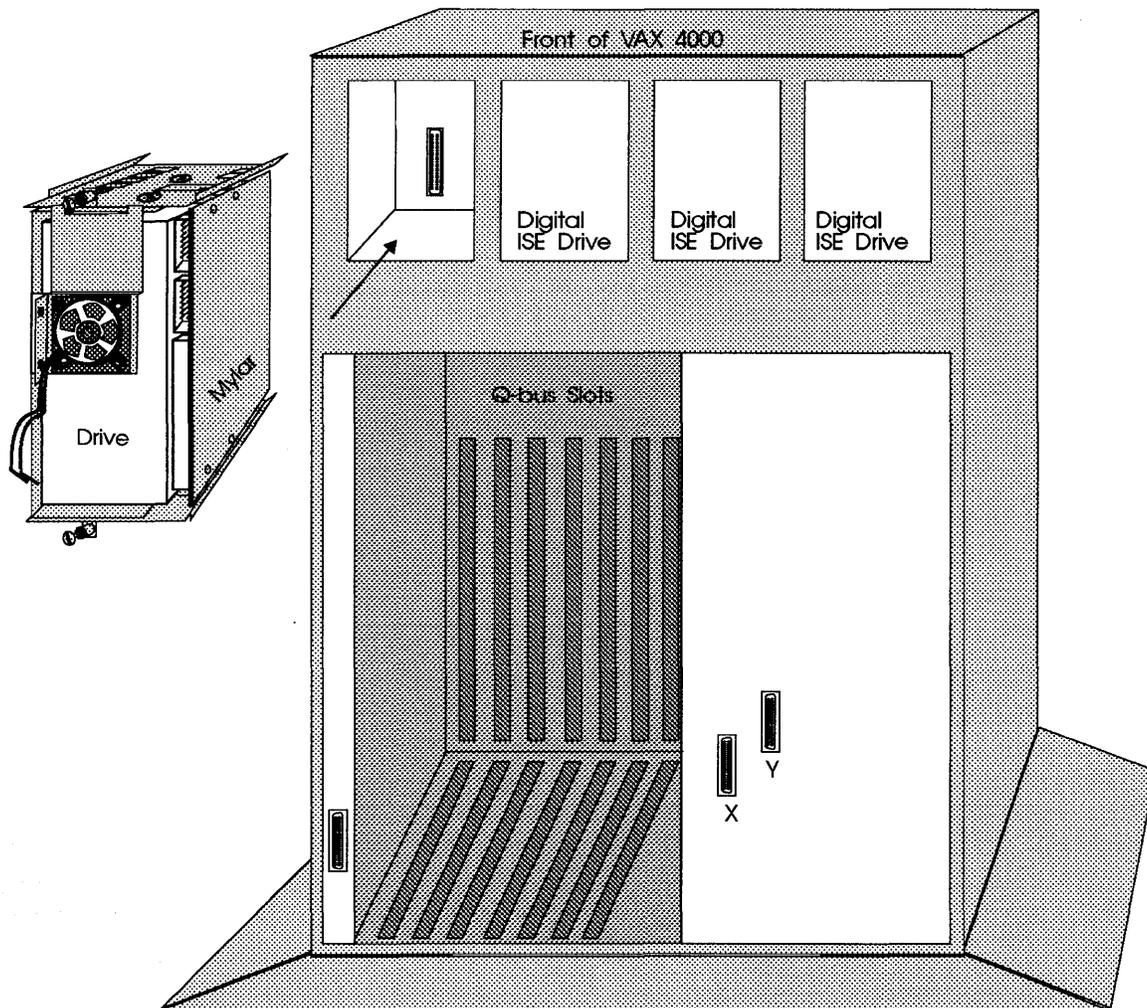

Figure 4-7: CDI-4000-SAE ISE and drive alignment
- 12 Turn the drive and the ISE chassis so that the mylar insulator faces the right and the floating connector faces the system. See Figure 4-7.